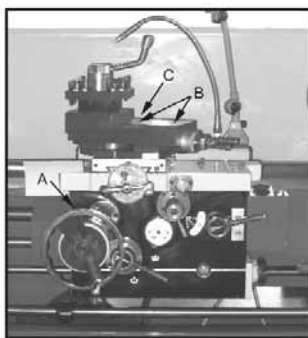

Fig. 7
5. **Saddle**: Lubricate ball oiler (A, Fig. 7) on handwheel shaft with Mobil DTE® Oil Heavy Medium oil daily.
6. **Compound Rest**: Lubricate four ball oilers (B, Fig. 7) on top of compound slide with Mobil DTE® Oil Heavy Medium oil daily.
7. **Cross Slide**: Lubricate one ball oiler (C, Fig. 7) with Mobil DTE® Oil Heavy Medium oil daily.